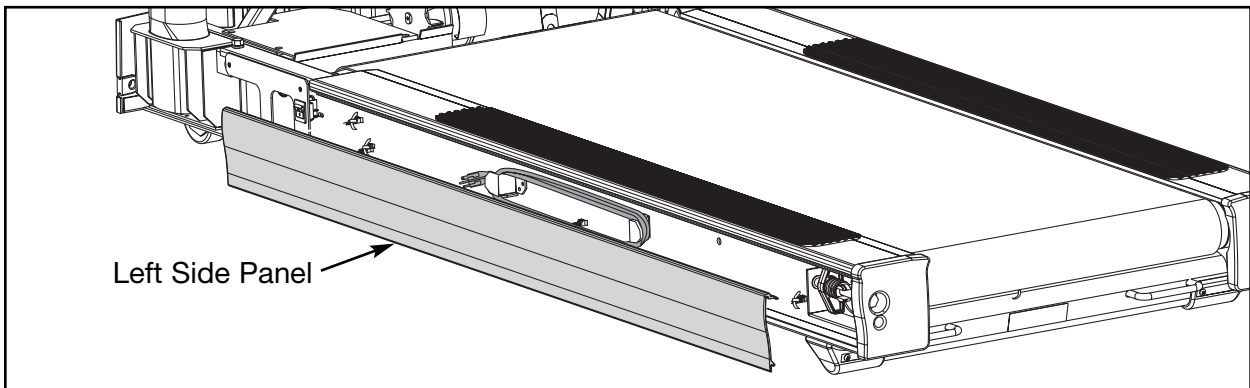

Figure 10
- A.** Pull the left side panel away from the base. See Figure 10.